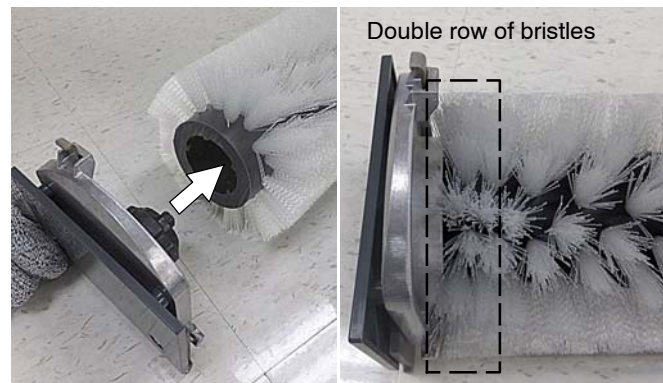

FIG. 20
3. Attach idler plate to brush end with double row of bristles (Figure 20).